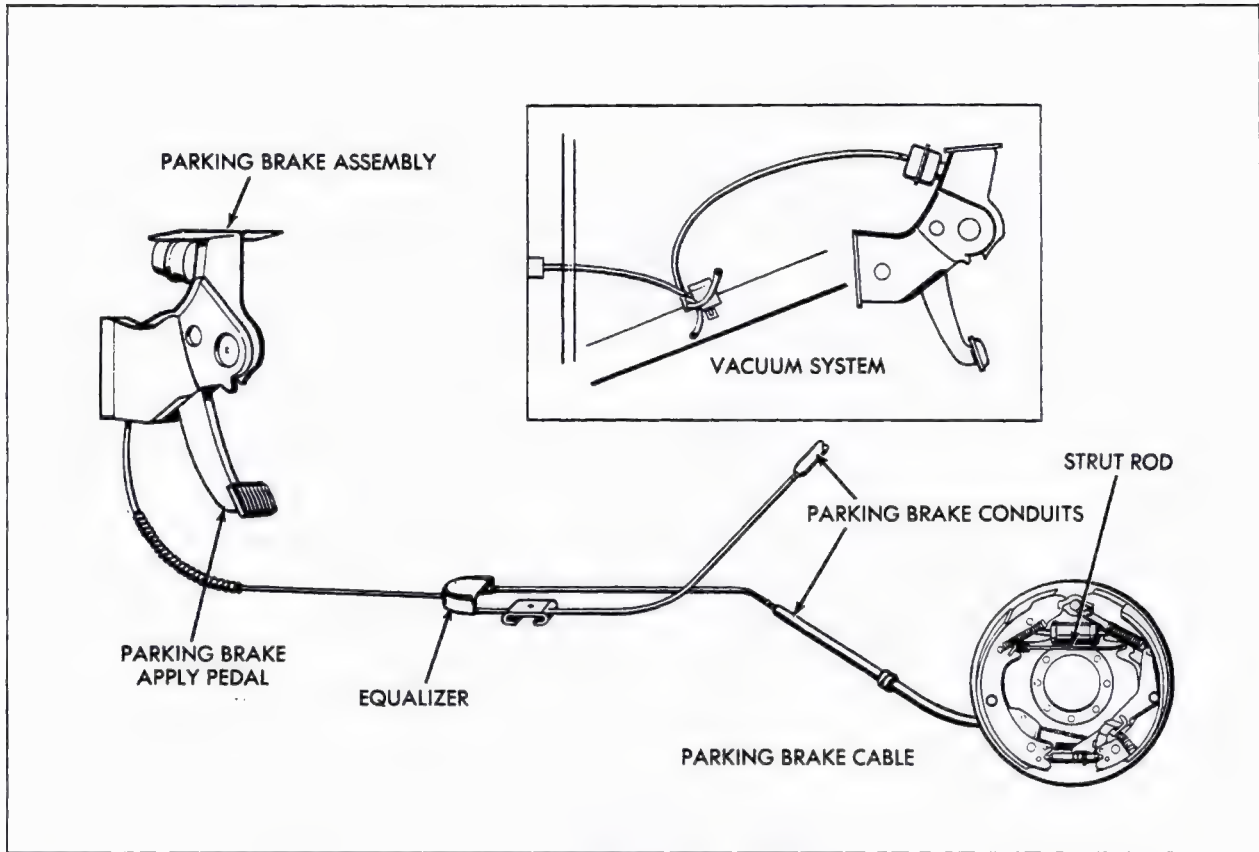

Fig. 5-18 Parking Brake Linkage
3. Disconnect cable stud at equalizer by removing equalizer nut and washer, Fig. 5-18, and separating cable stud from equalizer.